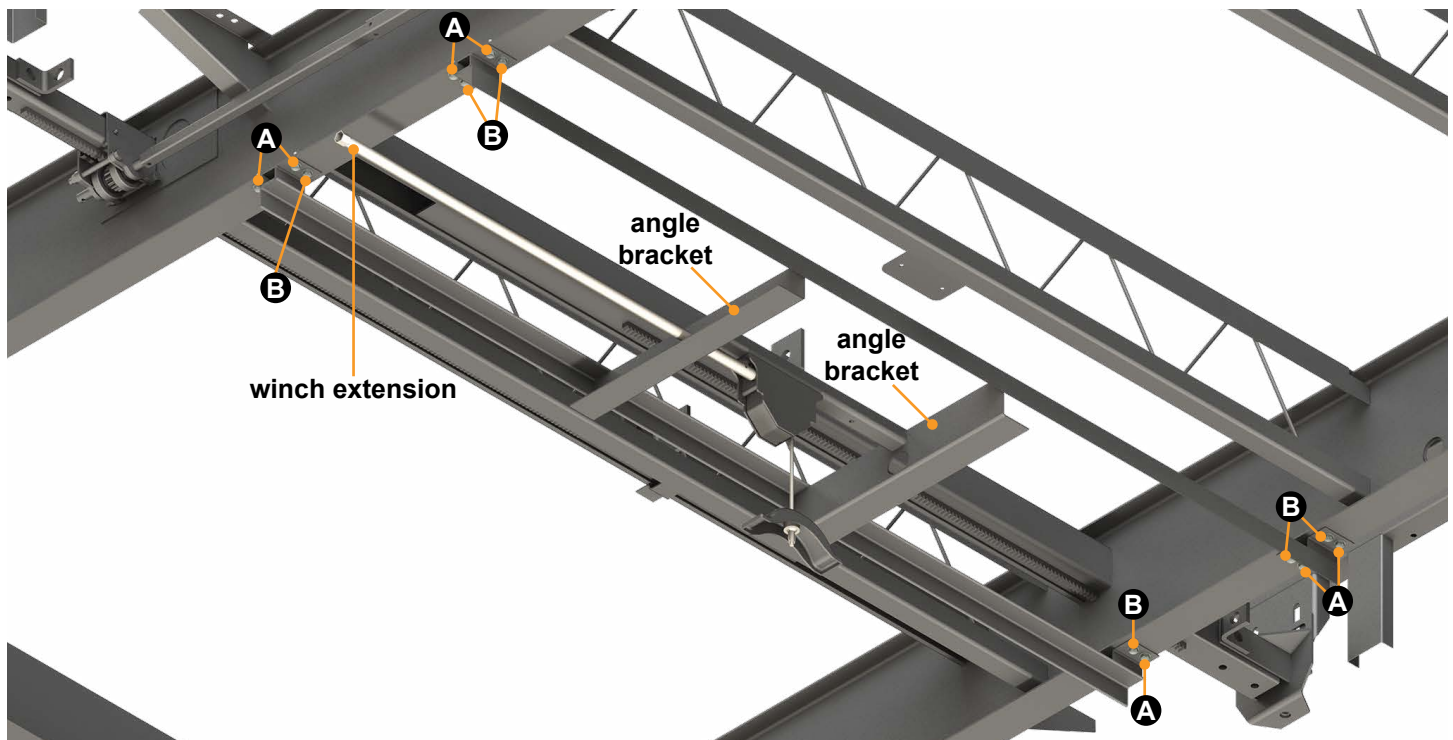

Fig.2
2. Use a crank handle or a socket wrench to turn the winch extension (**Figs.2 and 3**) clockwise to increase tension against the wheel hub, and then raise the spare tire to the stow position.
NOTE: The spare tire must be raised high enough so the tire's sidewall firmly contacts the two angle brackets on the carrier (**Figs.2 and 3**).